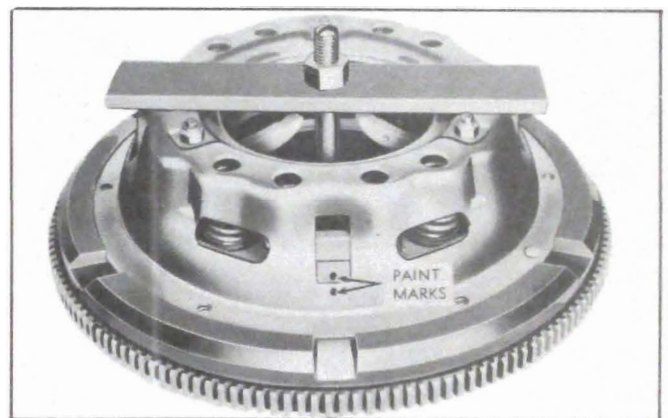

Figure 4-8—Clutch Disassembly—Series 50-60
1. Mark clutch cover and one driving lug of pressure plate with paint so that parts can be re-assembled in the same relationship to each other in order to preserve engine balance. See figure 4-8.
2. Some form of fixture is required to compress clutch springs while disassembling pressure plate and clutch cover. A simple fixture may be made with a flywheel, bolt with long threads, and a bar as shown in figure 4-8. Place the driven plate and the pressure plate and cover assembly in fixture and compress the clutch springs to relieve pressure on release levers. Remove metal spacers if these were installed during removal of assembly.
3. Place driven plate and pressure plate on fixture used to disassemble clutch. Place clutch spring seats and clutch springs over bosses on pressure plate, then place clutch cover on pressure plate so that marks made at disassembly are aligned and springs are properly located over bosses in cover. See figure 4-8.